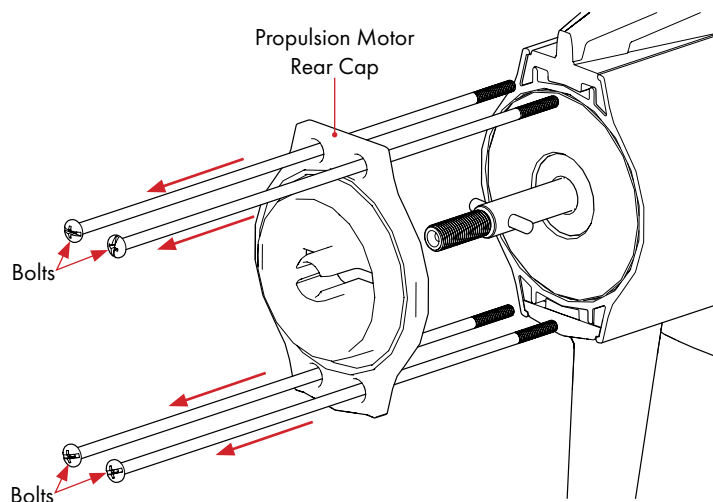

Figure 4
STEP 2 Using a **#2 Phillips Screwdriver**, remove the (4) **Bolts** that hold the **Propulsion Motor Rear Cap** in place. **FIG 4**
INSTALL NEW PROPULSION MOTOR REAR CAP (PV UNITS ONLY): FIG 4/4a